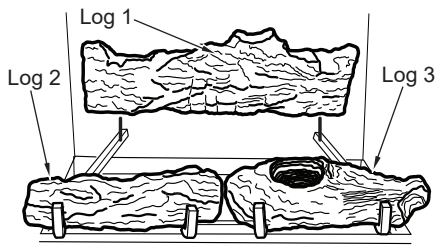

Figure 22
1. Place log #1 onto the rear grate;prongs (see Figure 22).
2. Place logs #2 and #3 onto the front of the grate assembly (see Figure 22).